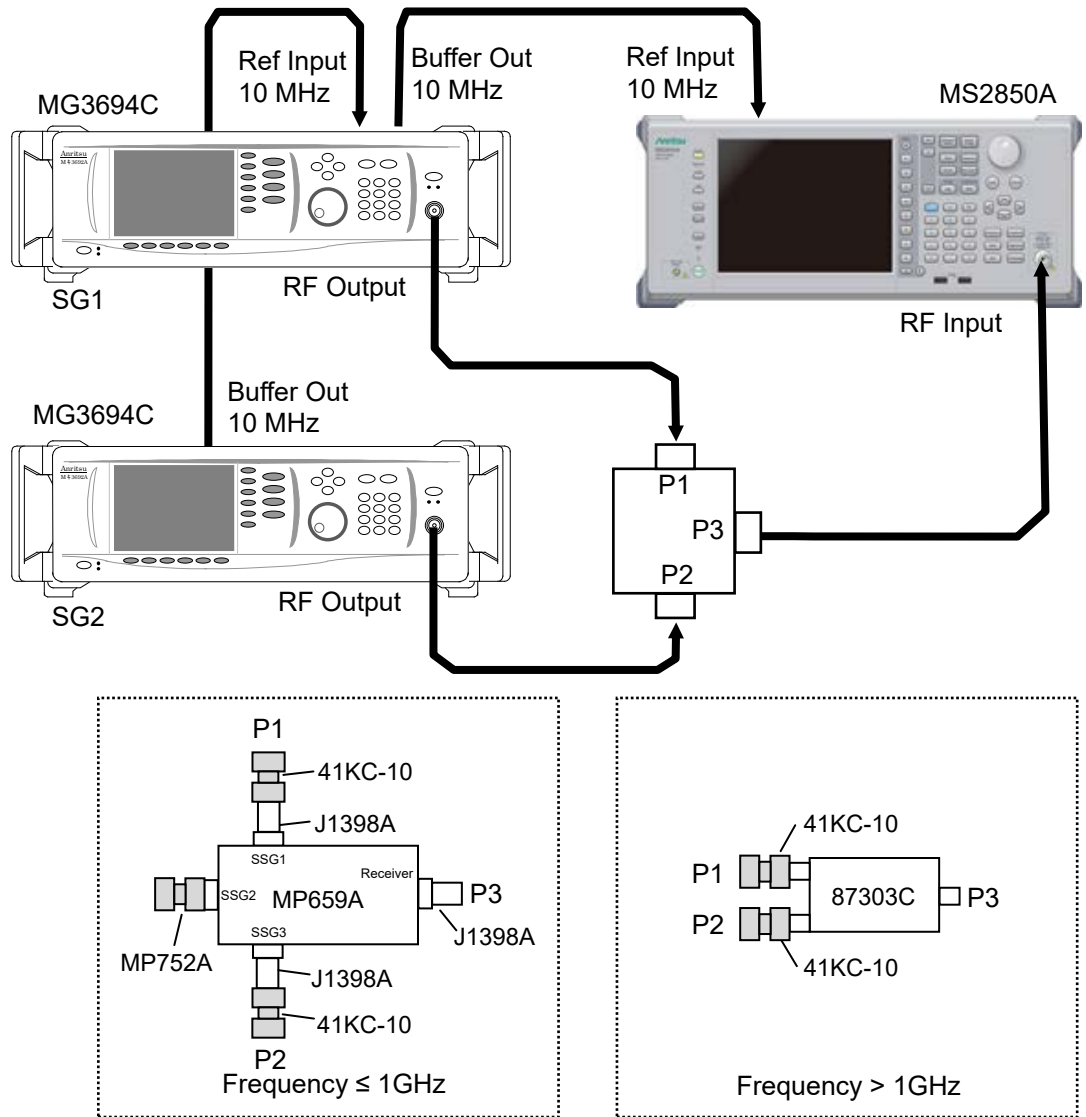

Figure 6.2.11-1 Two-tone third-order intermodulation distortion
4. Connect the equipment in reference to Figure 6.2.11-1 Dependent on the Frequency, the measurement system will be different.